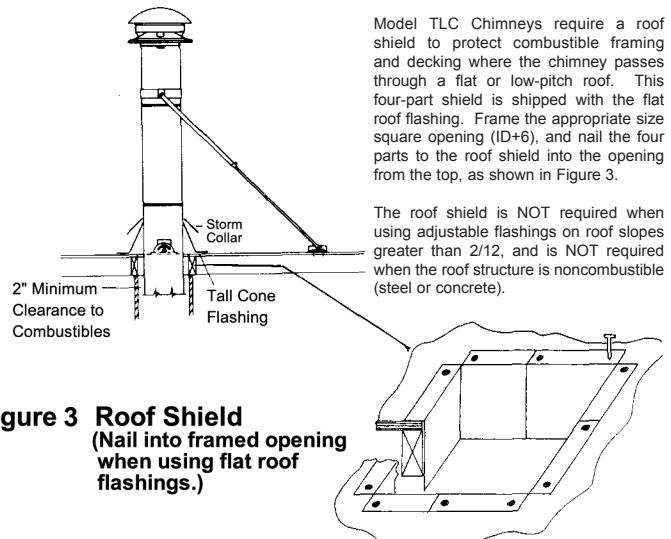

Figure 3 Roof Shield
4. Place the storm collar down over the chimney until it touches the flashing. Tighten the adjusting screws or tabs until the storm collar fits snugly against the pipe. Work in a waterproof mastic between the pipe and the storm collar. (Roof shield included with tall cone flashing. See Figure 3.)